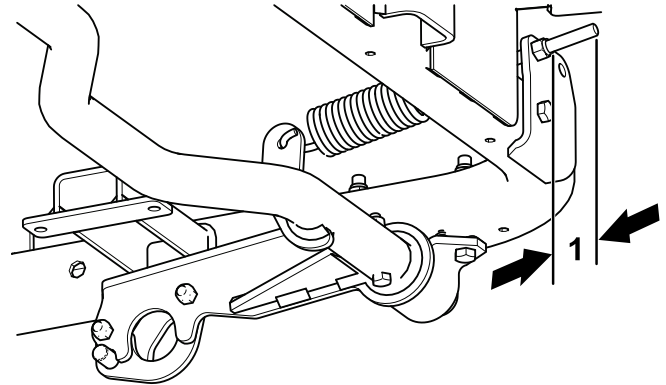

Figure 20
3. Tighten the locknuts that secure the spring rod until 1/4 to 1/2 inch (6 mm to 13 mm) of the threads are showing to apply tension to the spring (Figure 20).